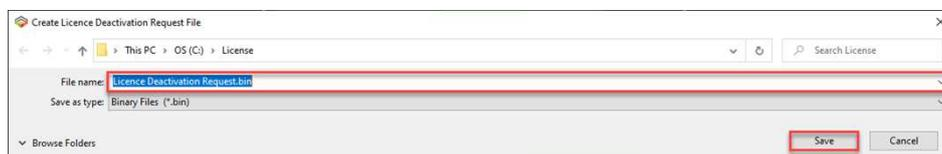

Figure 16. Create License Deactivation Request File dialog.
7. The process will create 2 files (Figure 16). The *Licence Deactivation Request* file plus a text file containing a link to the Flexera Network Operations (FNO) website.